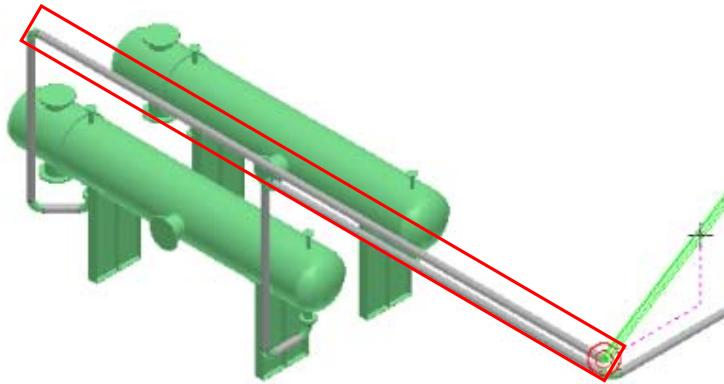

Figure 42: Routed Pipe in the North Direction
46. Now, on the **Route Pipe** ribbon, key in **33 ft 2 in** in the **Length** drop-down list and use SmartSketch to locate the **N** glyph. Click in the graphic view to place the pipe, as shown in Figure 42.